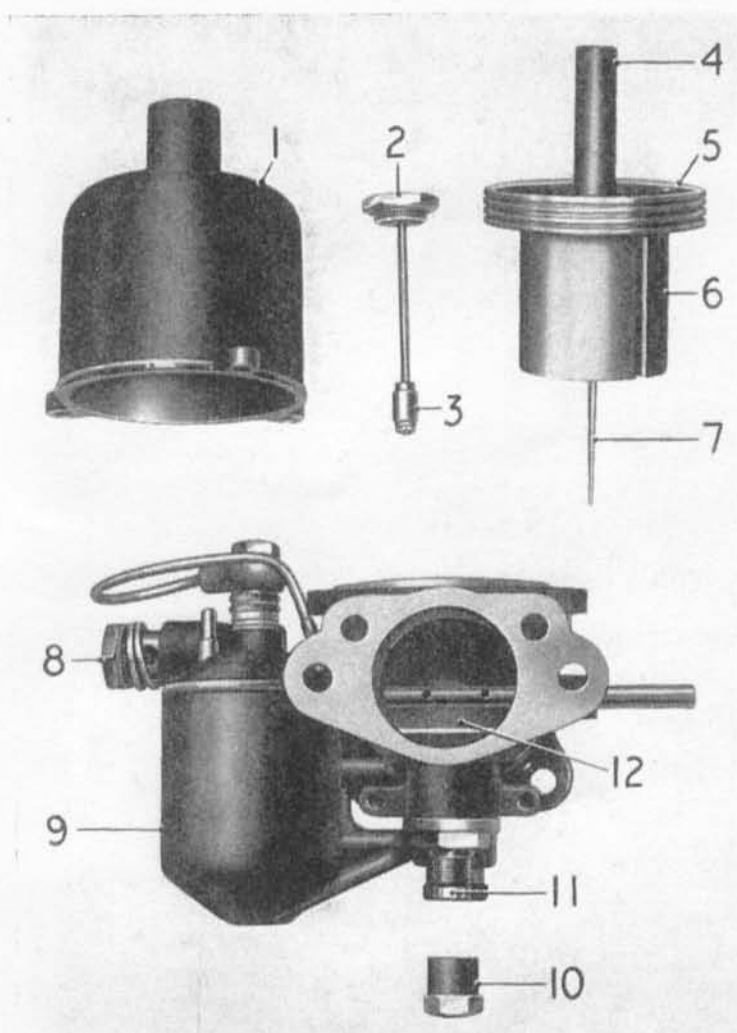

Fig. 14.—CARBURETTER—EXPLODED VIEW.
In addition, a small gauze filter (8, Fig. 14) is arranged on each carburetter. These should be removed and cleaned every 20,000 miles as directed on page 34.
If any sticking or sluggishness is apparent, it will be necessary to dismantle the air valve assembly: first remove the hydraulic piston damper, next remove the three screws and lift off the air valve chamber (1, Fig. 14). The piston valve can then be lifted out, *the utmost care being taken not to bend or damage its depending needle valve (7, Fig. 14), or to bruise the valve in any way*. The valve, chamber and guide should be carefully wiped with a piece of clean cloth dipped in petrol, and the piston rod ONLY lubricated with a few drops of thin oil.
The suction disc (5, Fig. 14) does not touch the walls of the valve chamber, there being a small clearance, and it is centralised solely by the piston rod working in the guide. Therefore, any sluggishness in movement is probably due to dirt in the guide, or on the valve chamber walls.
2. The strength or quality of the mixture for slow running is set by means of an adjustable screw in the base of each carburetter (11, Fig. 14). The screw operates to raise or lower the jet. Raising the jet causes the taper needle to sink farther into the orifice, so weakening the mixture. Conversely, lowering the jet enriches the mixture.
3. Remove the caps (10, Fig. 14) from the base of each carburetter to expose adjusting screw (11, Fig. 14). With the engine warm and running, manipulate the screws; a coin provides an easy means of turning, so that the engine runs regularly. Any sign of "hunting" is due to too rich a mixture, and one or both of the screws should be screwed farther in.